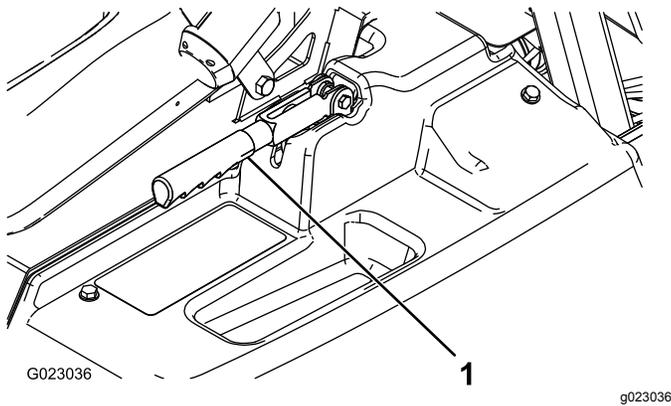

Figure 51
2. Loosen the set screw securing the knob to the parking-brake lever (Figure 51).